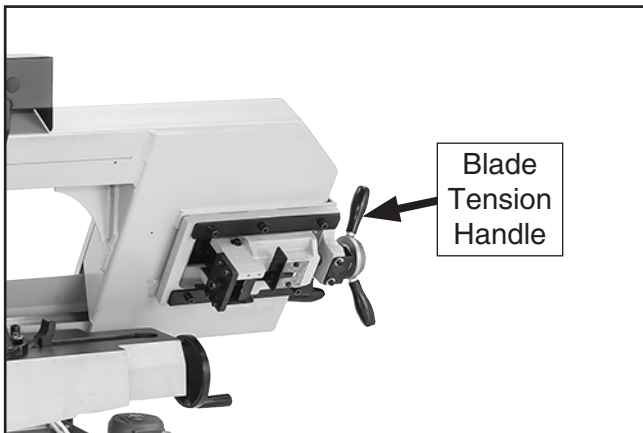

Figure 34. Location of blade tension handle.
9. Release blade tension by turning blade tension handle counterclockwise (see **Figure 34**).